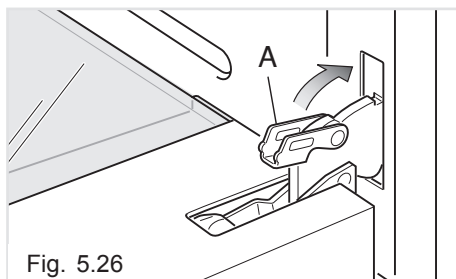

Fig. 5.26
- Open completely the oven door and close the lever "A" on the left and right hinges (fig. 5.26).